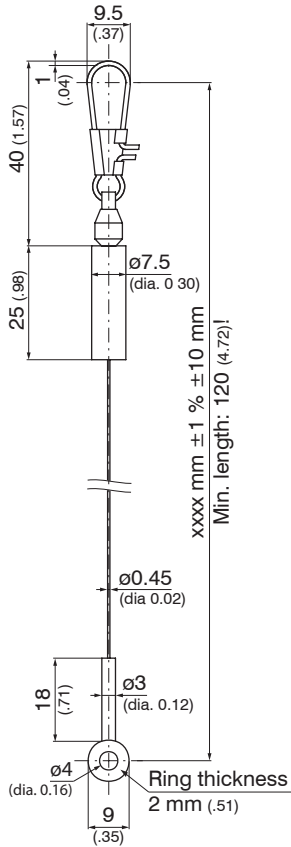

Fig. 15 Wire extension WE-xxxx-CLIP, dimensions in mm (inches), not to scale
- WE-xxxx-CLIP Wire extension with wire clip, see Fig. 15, wire length in millimeters for xxxx, max. 10.000 mm (33 ft)